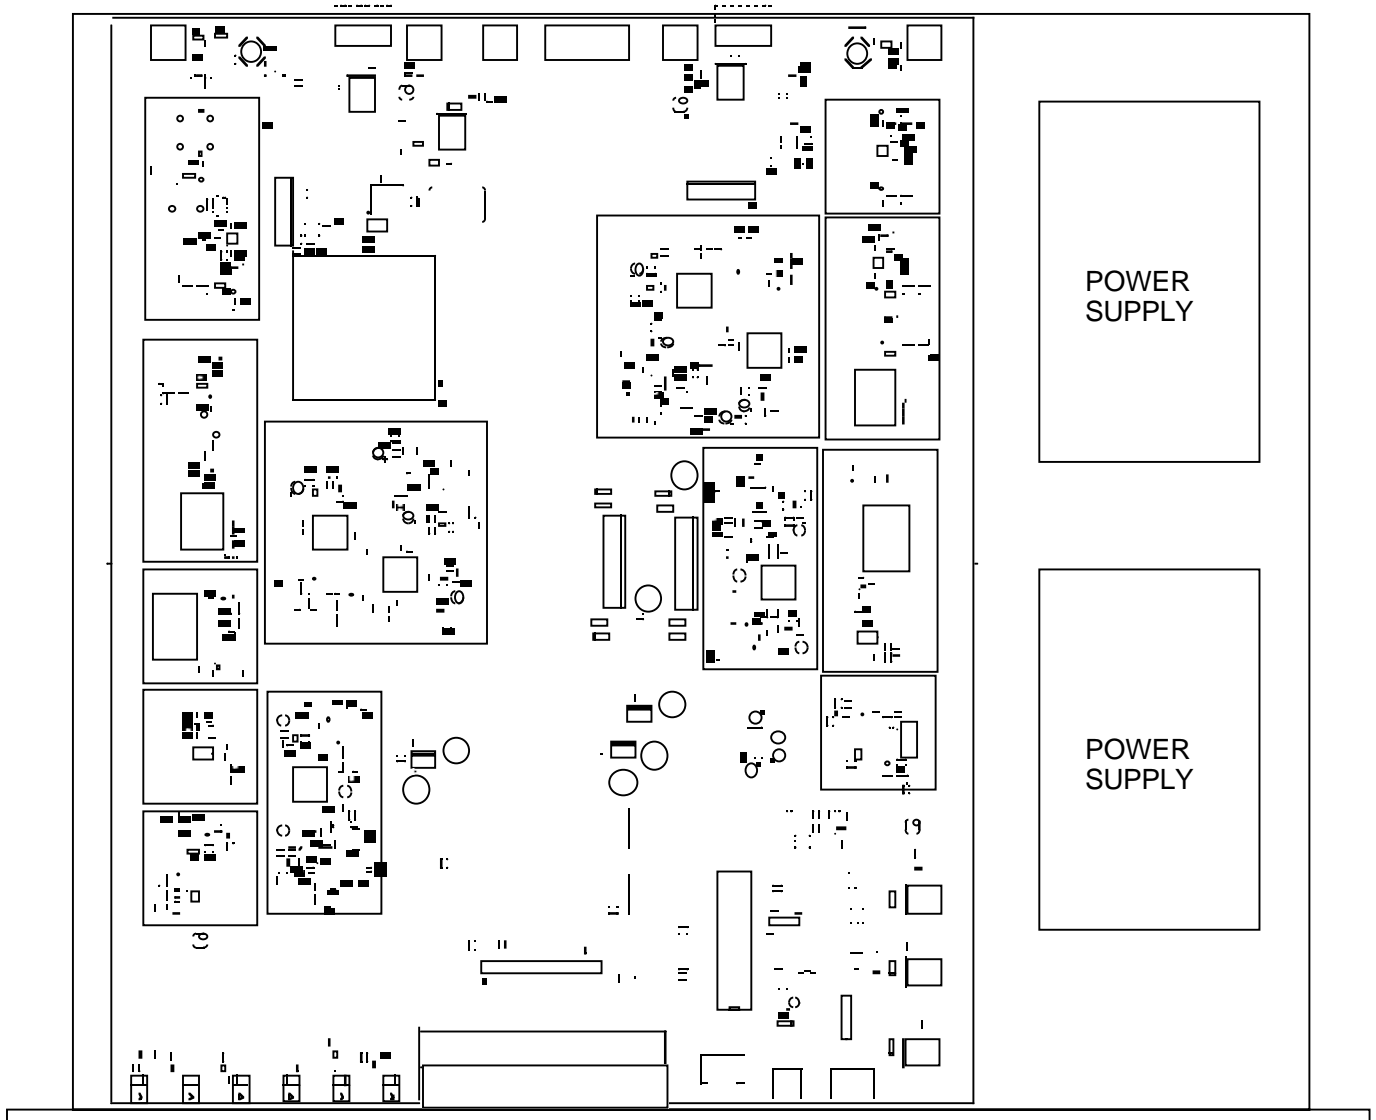

Figure 2.0 Model 2017 Mechanical Assembly
2.1 Mechanical - The 2017 consists of one RF/Controller PCB housed in a 1 RU (1 3/4 inch high) by 16 inch deep chassis. A switching, ± 12 , +5, +24 VDC power supply provides power for the assemblies. The 2017 can be secured to a rack using the 4 holes on the front panel. Figure 2.0 shows how the 2017 is assembled.